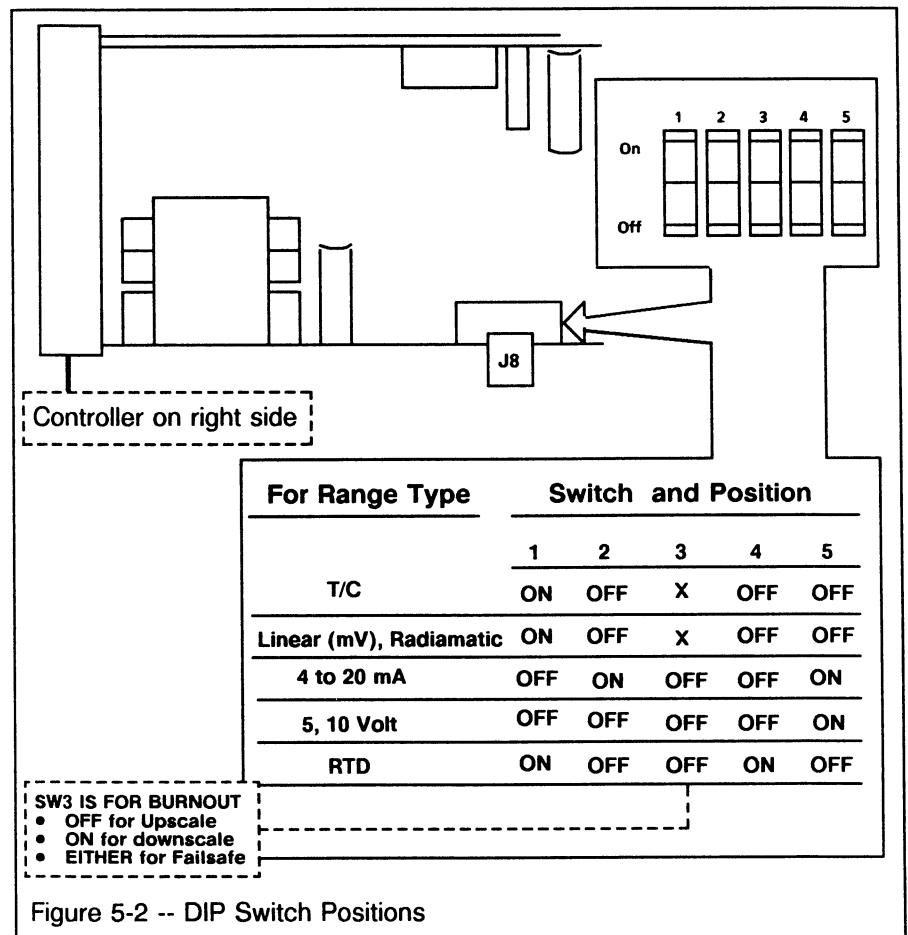

Figure 5-2 -- DIP Switch Positions
2. The switches are located at position J8 on the main assembly board. (See Figure 5-2.)
3. Set the switches for the range type desired according to the table in Figure 5-2.